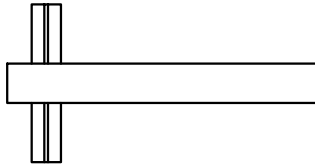

Figure 10 Chain Retainer Lock
- 15) Feed long flat end of Chain Retainer (see Figure 10) through middle of a chain link then move retainer lock into position where round peg fits into small round mounting hole.